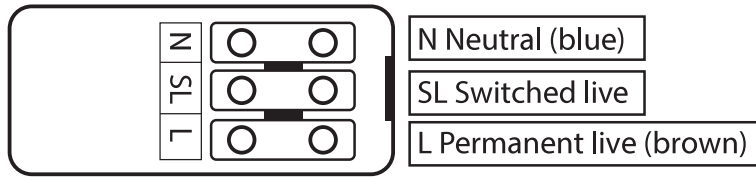

Fig 3
- Connect permanent live (brown), neutral (blue) and switched live (brown) to the three way terminal block (shown in Fig 3)